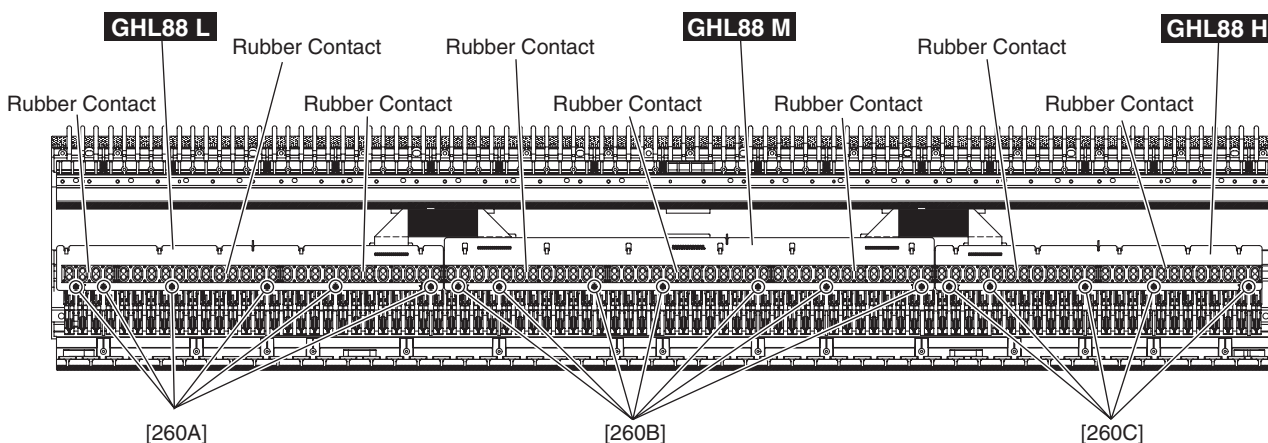

Fig.10
Remove the black and white key assembly for two octaves related to the subject rubber contact. The rubber contact can then be removed. (Fig.10, Fig.11)
Remove the six (6) screws marked [260A]. The GHL88L circuit board can then be removed. (Fig.10)
Remove the seven (7) screws marked [260B]. The GHL88M circuit board can then be removed. (Fig.10)
Remove the five (5) screws marked [260C]. The GHL88H circuit board can then be removed. (Fig.10)
Tighten the six (6) screws marked [260A] to fix the GHL88L circuit boards. (Fig.10)
Tighten the seven (7) screws marked [260B] to fix the GHL88M circuit board. (Fig.10)
Tighten the five (5) screws marked [260C] to fix the GHL88H circuit board. (Fig.10)